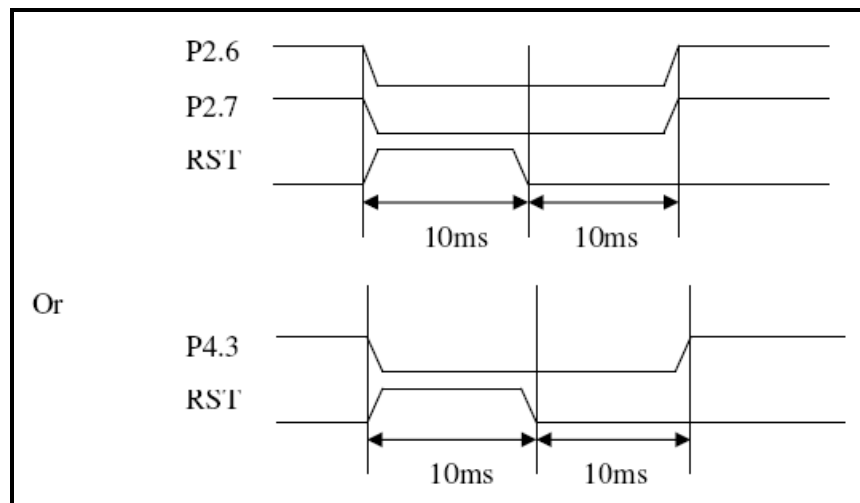

Fig 9-1 : ISP entering by hardware setting
- (1) Blank first data : If the first Flash data is blank (data in address 0000h is FFh), the controller will read it after power on and after identifying it as blank, the program counter will go to the ISP code area.
- (2) Execute the "LJMP" instruction in the program as IAP function.
- (3) By hardware setting: After power on reset, if the hardware finds both Port2[6] and Port2[7] are tied low, or Port4[3] is low, then the program counter will go to the ISP code area. This is shown in Fig. 9-1.